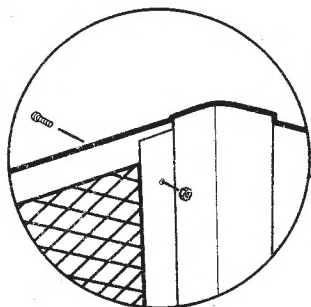

Figure 5
5. Assemble side pieces of screen to end sections of screen using the #6 x 3/8" screws & nuts. **(Figure 5)**